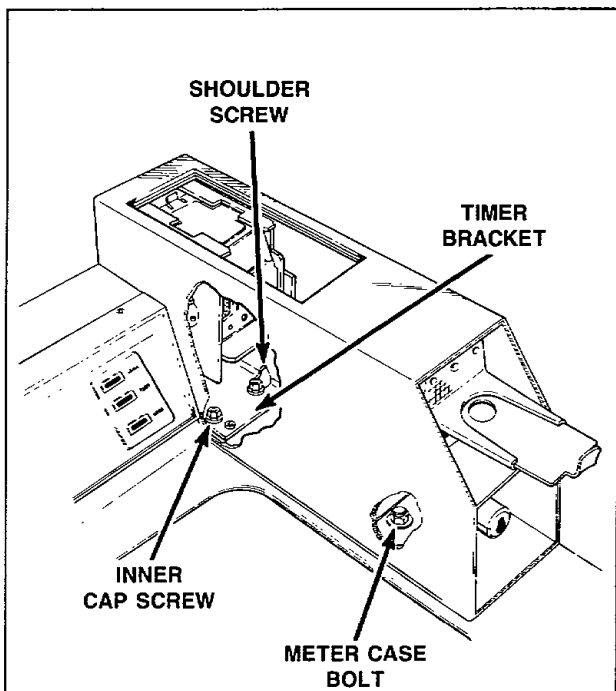

Figure 3
- b. Remove the inner timer bracket cap screw, *Figure 3*.
- i. Open loading door, hold hand under front meter case bolt, *Figure 3*. Remove nut and lockwasher.
NOTE: When installing meter case, shoulder screw must be installed in the outer hole, *Figure 3*, to enable the timer bracket to slide under the screw head.